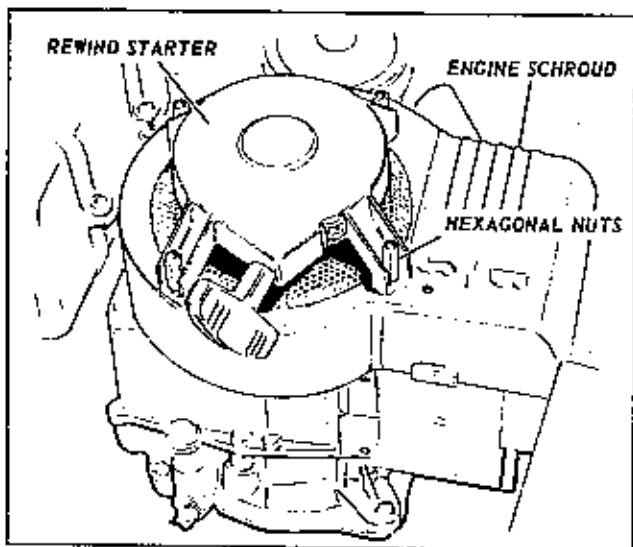

Figure 1
2. Remove the four long hex nuts that attach the rewind starter to the engine shroud. Refer to Fig. 1. Remove the rewind starter assembly from the engine shroud.